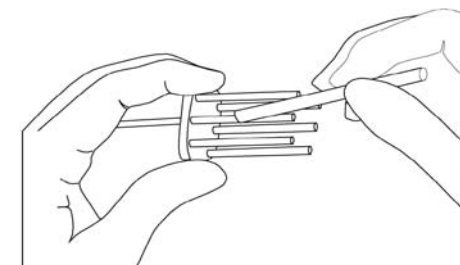

Figure F.2.3c:
- **125µl, 30µl, 12.5µl Pipettors:** Spread the lubricant directly onto the pistons, approximately 0.5 inches (*approx. 1.3 cm*) from the bottom of each piston (see Figure F.2.3c)